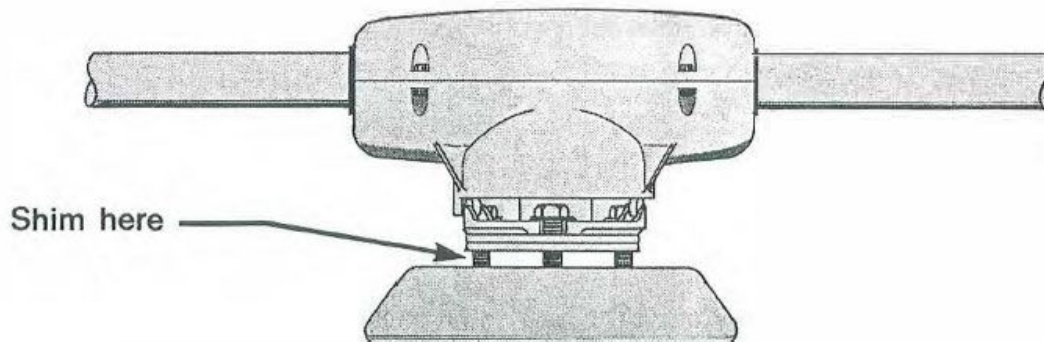

Figure 15: Adding Shims to Blade Assembly
- 2.6. Also, even though the center insulator is rotating true, the watermelon could be misaligned, causing one blade tip to be high, the other low, beyond the range of jack screw adjustment. To correct this, do not disturb the rotating insulator adjustment, but rather simply place shims between the rotating insulator cap and the watermelon mounting plate (**Figure 15**).